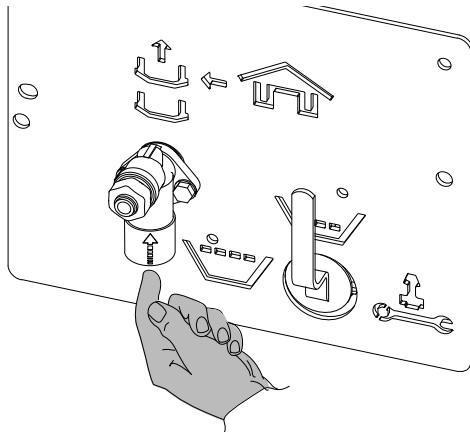

Figure 6.4
- Release the brakes by pressing in the retarder valve. See “Figure 6.4”.